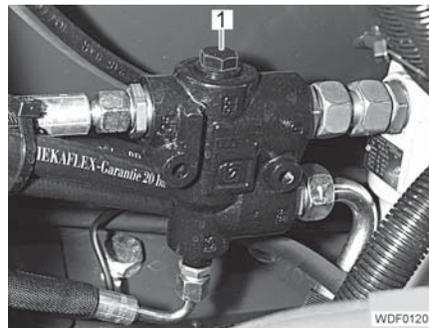

Fig. 122 Priority valve
- Unscrew the screw attachment (Fig. 122,1).
- Screw the screw attachment (Fig. 122,1) into the priority valve and tighten hand-tight.